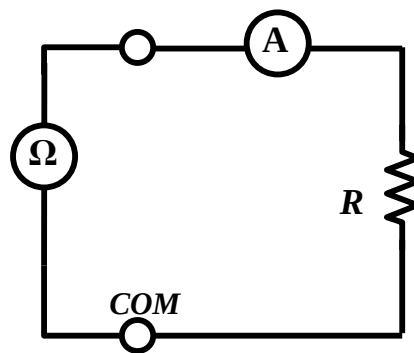

figure 4
4. Remove the handheld DMM from the circuit and reconfigure it as an ammeter. Do this by rotating the switch to select one of the DCA settings. We will use the $200\mu A$ range. With the ohmmeter on the $20k\Omega$ scale and R at $5k$, add the ammeter as shown in figure 4 below. Is the measured current close to the current you calculated in step 3 for this case? What is the measured resistance now? What must the series resistance of the ammeter be for this setting?
figure 4. Why could we set R to zero in this circuit without blowing the fuse in the ammeter? Note that if the ohmmeter were replaced with a voltage source, we most likely would have.